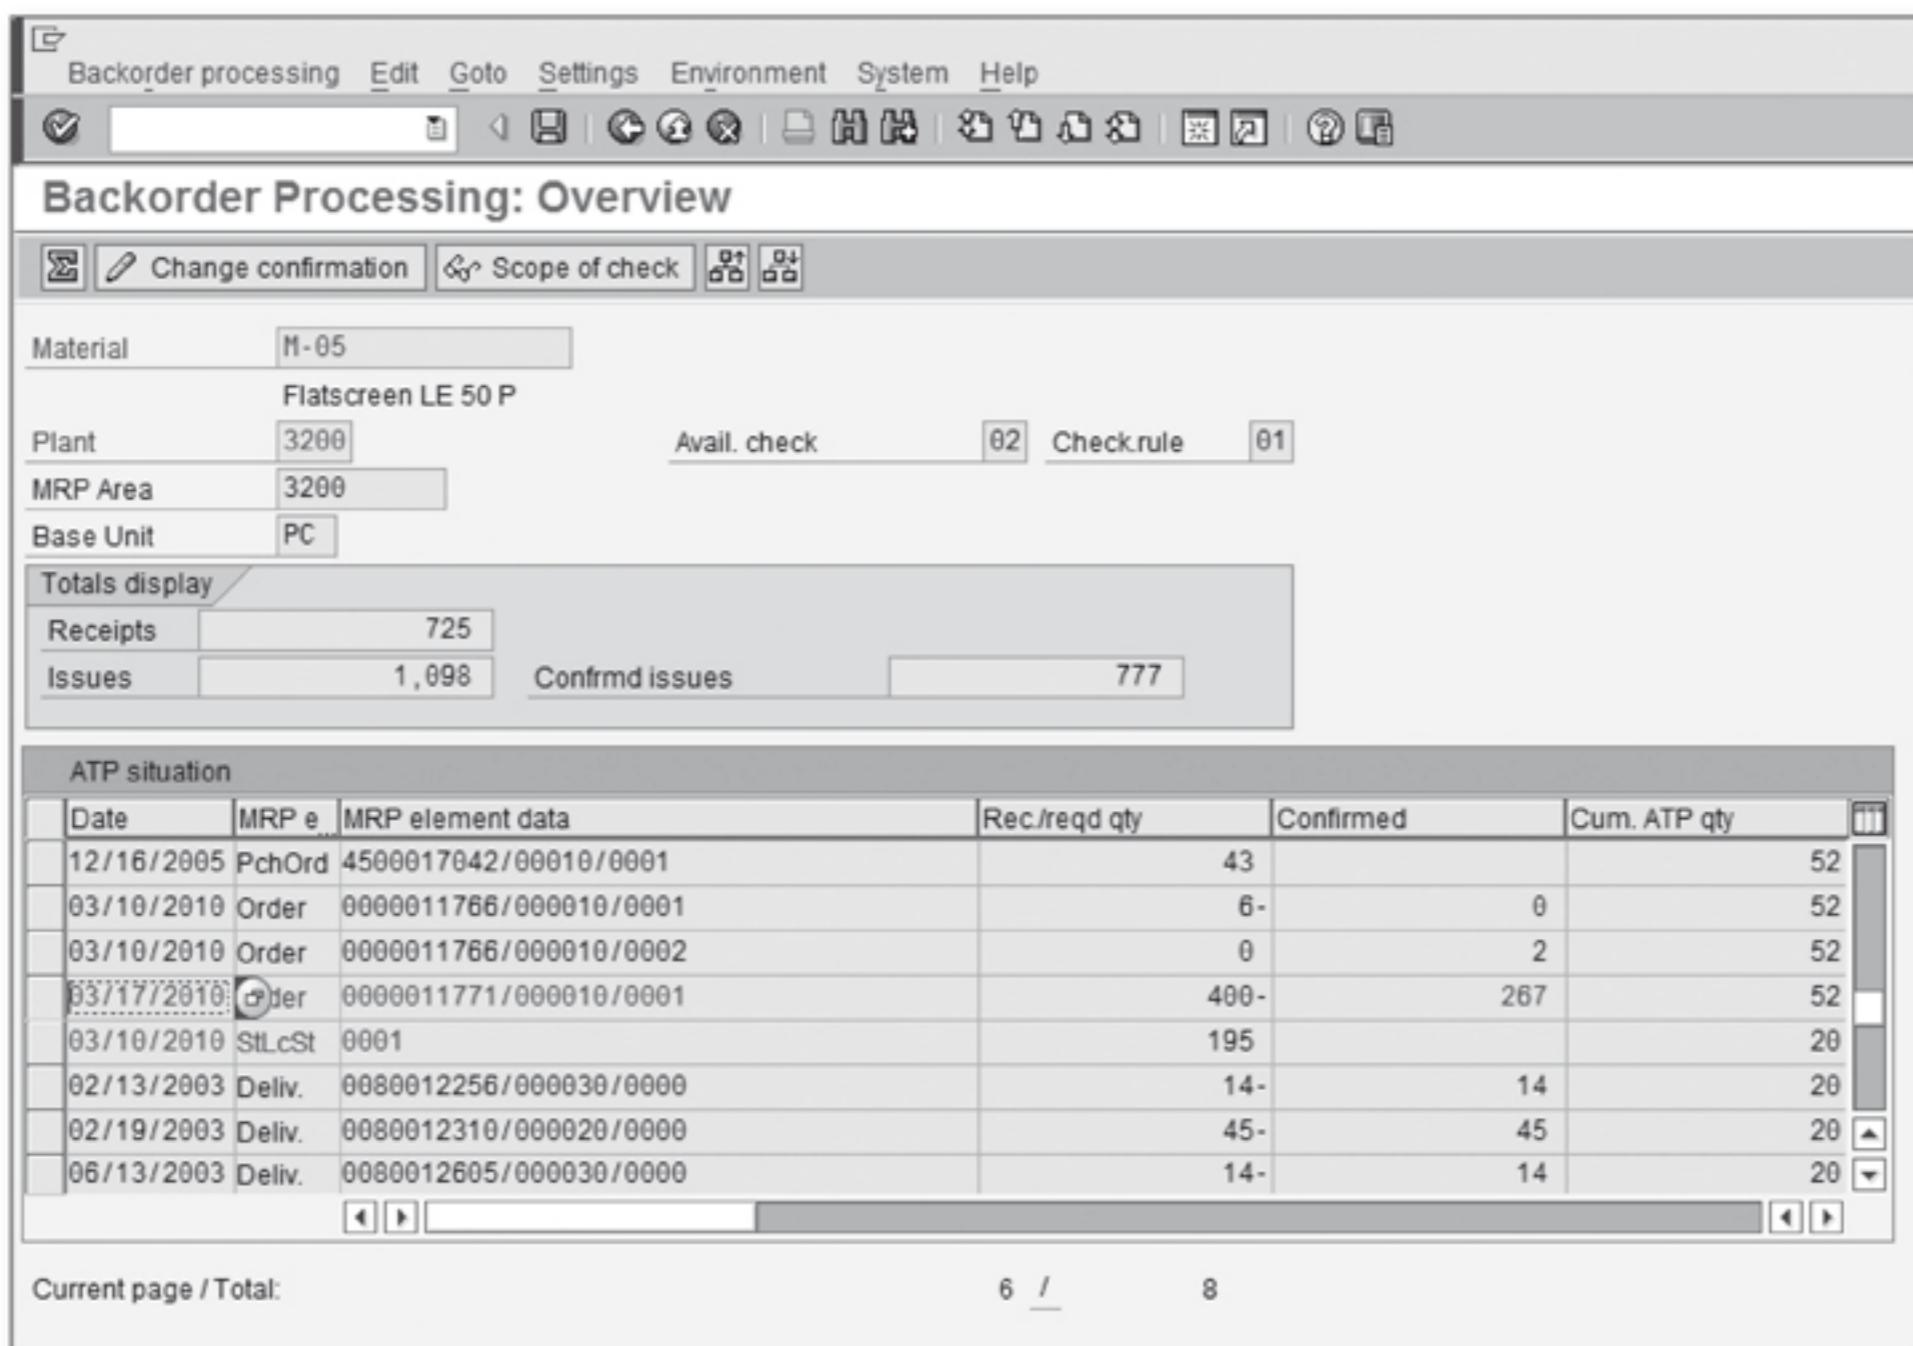

Figure 3.28 Backorder Processing Overview
8. After you select the line for processing, click the Backorder button or press **[F8]**, and the Backorder Processing Overview appears (Figure 3.28).